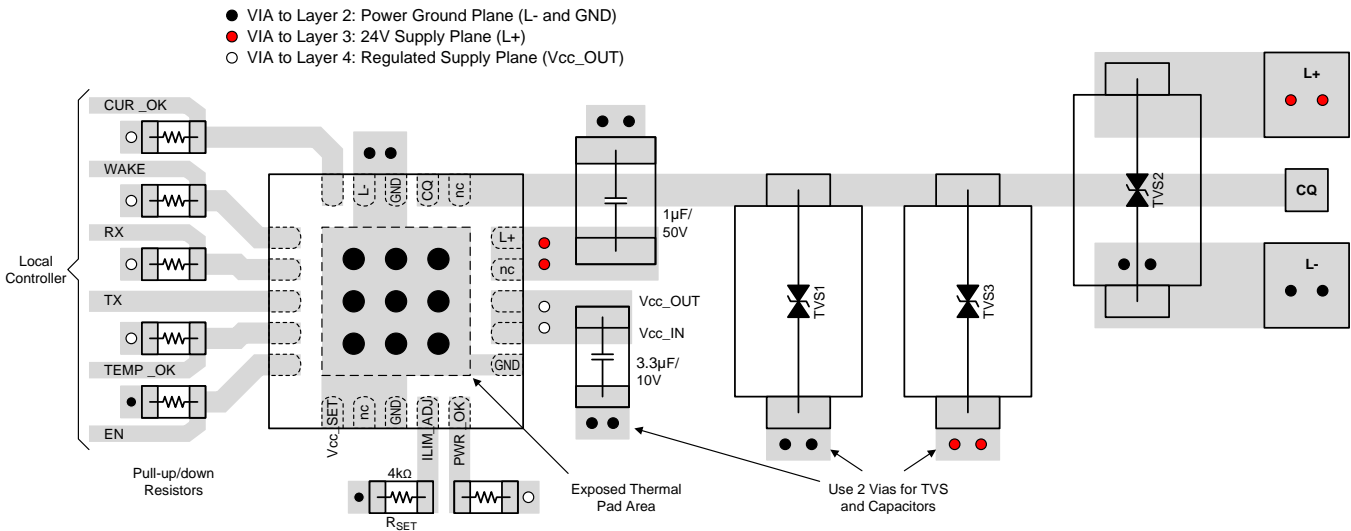

Figure 19. Layout Example
- The optimum placement is closest to the transceiver's L+ and L- terminals to reduce supply drops during large supply current loads. See Figure 19 for a PCB layout example